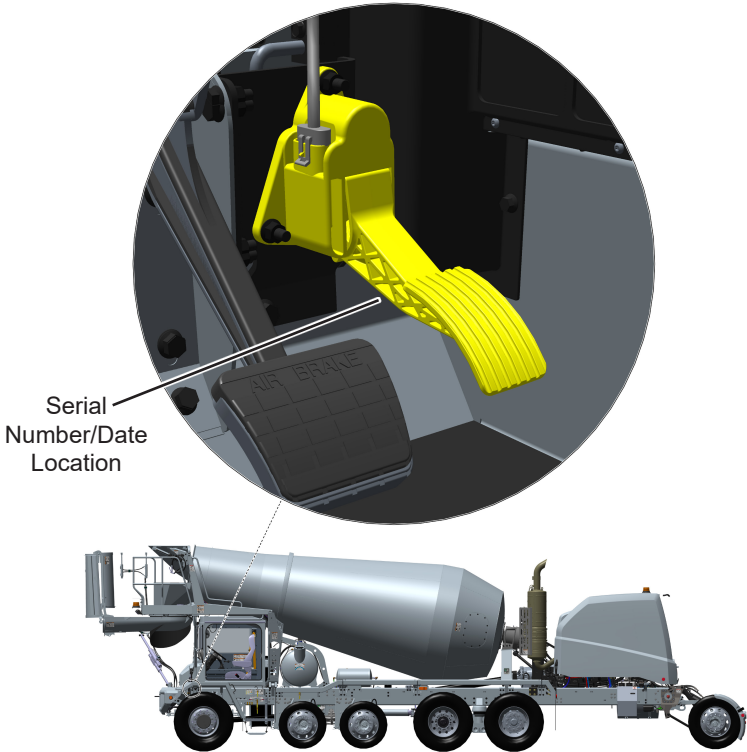

Figure 1
- 3. Locate throttle pedal manufacture date and serial number on the bottom of throttle pedal arm. See Figure 1.